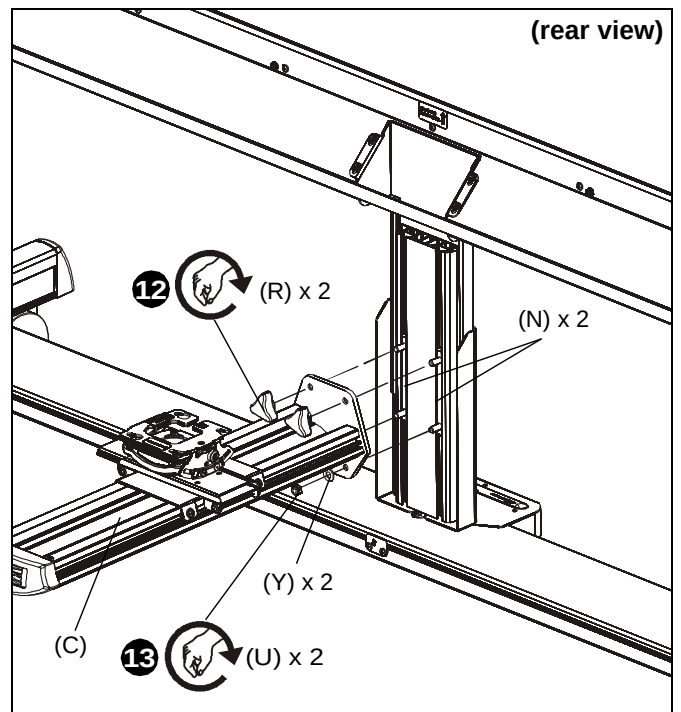

Figure 6
12. Use two knobs (R) to attach projector boom arm (C) to height-adjust beam by screwing them onto upper stud of each stud strip (N). (See Figure 6)
13. Loosely screw two 5/16" nuts (U) and two 5/16" (Y) washers onto lower stud of each stud strip (N). (See Figure 6)